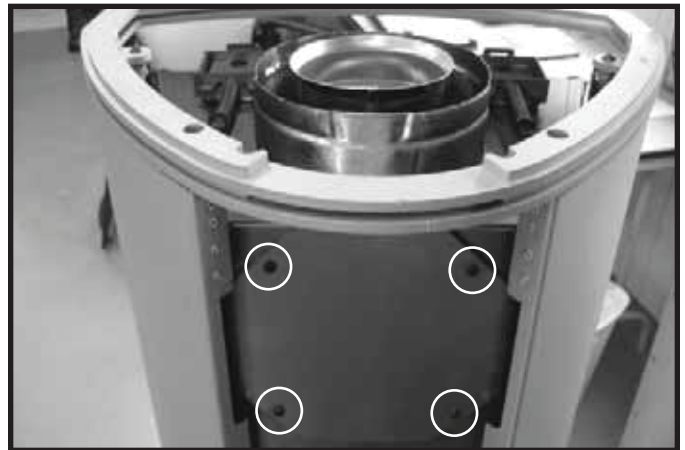

Figure 8.11
6. Remove the four screws from the cover plate on rear of appliance. Retain screws. (see Figure 8.11).